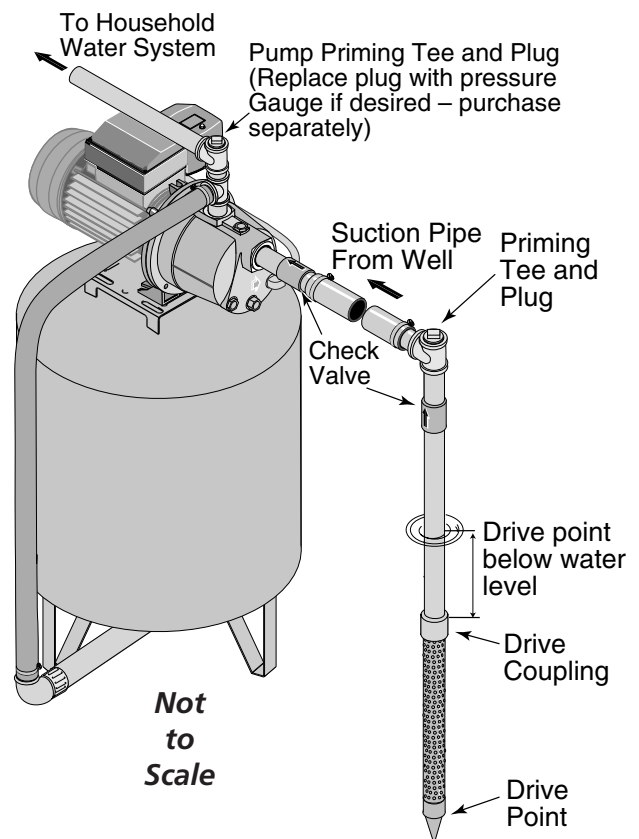

Figure 1 – Driven Point Installation
## WELL POINT (DRIVEN POINT) INSTALLATION (FIGURE 1)
3. Use the fewest possible fittings (especially elbows) when connecting the pipe from the well point to the pump suction port. The suction pipe should be at least as large as the suction port on the pump (include a check valve as close to the well as possible - see Figure 1). Support the pipe so that there are no dips or sags in the pipe, so it doesn't strain the pump body, and so that it slopes slightly upward from the well to the pump (high spots can cause air pockets which can air lock the pump). Seal the suction pipe joints with teflon tape. Joints must be air- and water-tight. **If the suction pipe can suck air, the pump cannot pull water from the well.** If one well point does not supply enough water, consider connecting two or three well points to one suction pipe.